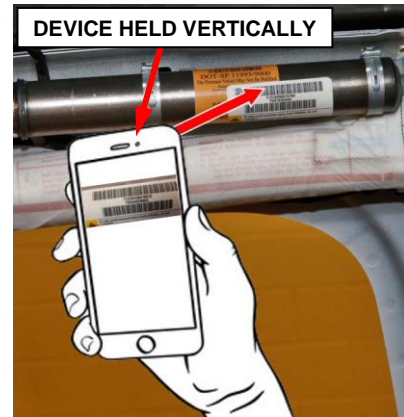

Figure 38 – Scan Barcode
- **Method 1:** Using a smartphone or tablet held vertically, click on the barcode scanner icon (Figure 39) to open the barcode scan function. Ensure the device camera is enabled and device is held vertically. Aim the camera directly at the SABIC traceability number barcode as shown in (Figure 38). The barcode scanner will automatically record the barcode and populate the traceability number entry field (Figure 39). Scan the barcodes for the left side and right side SABIC inflators.